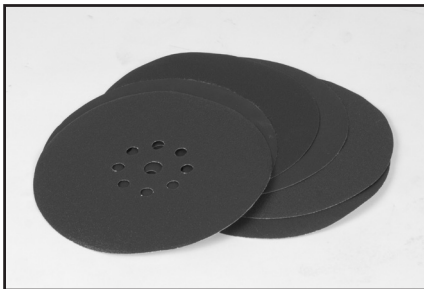

Fig. 1
- Place the new abrasive disc (**Fig. 1**) accurately onto the Backing Pad .